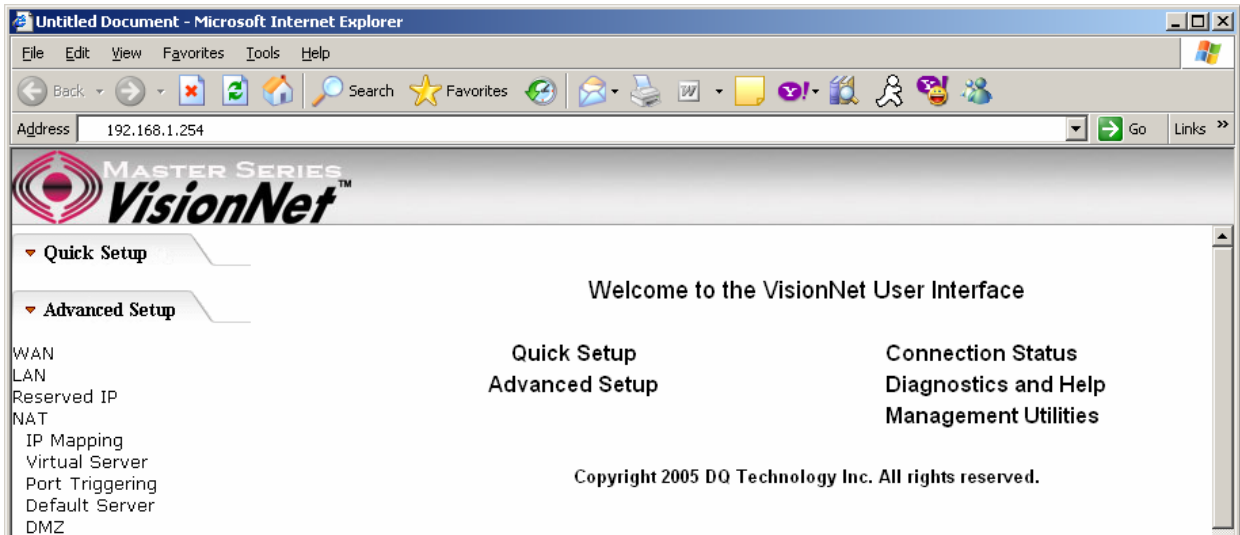

Figure 2. M404/M405 Home Page
- If the authentication is valid, the main page will be displayed on the screen. (Figure 2)